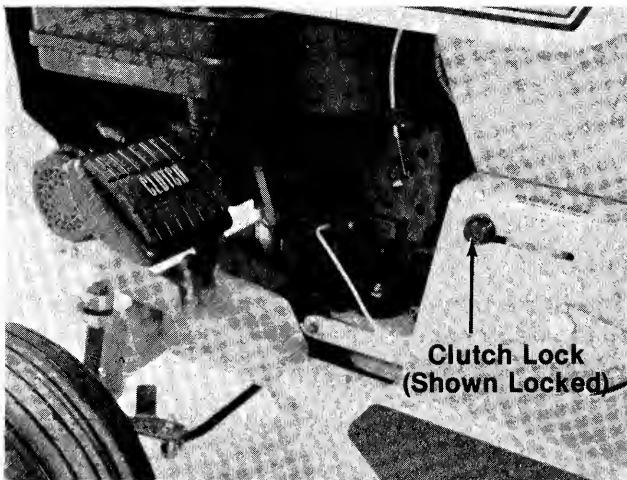

FIGURE 20.
The clutch pedal is located on the left hand side of the tractor and is operated with your left foot. Depress the pedal to disengage the drive mechanism. Release the clutch slowly to engage. The clutch and brake pedals must both be depressed when stopping the tractor. When shifting gears, the clutch pedal must be disengaged, and the tractor cannot be moving. See figure 20.
When the clutch pedal is depressed all the way it can be locked by lifting up the lock button. The pedal will stay depressed. To release, depress the pedal. See figure 20.
4. Depress the clutch pedal and lock it down with the clutch lock. See figure 20.